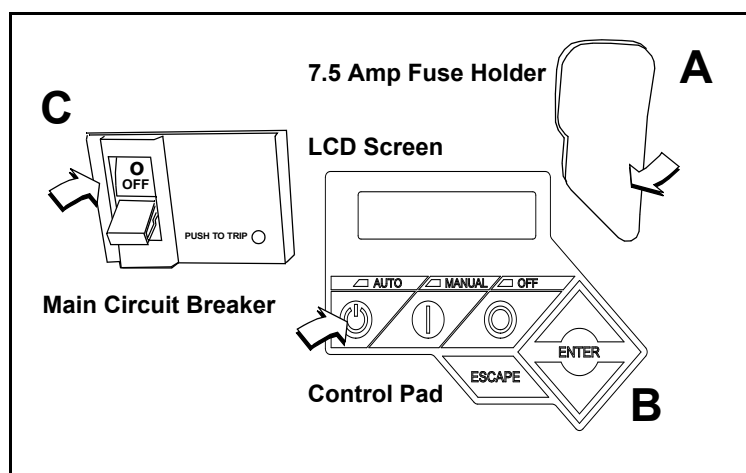

Figure 5-20. Generator Control Panel
1. Pull up rubber flap covering fuse holder and install 7.5 amp fuse. See A of Figure 5-20.
3. Press AUTO on the control pad. A green LED illuminates to confirm that the system is in the AUTO mode. See B of Figure 5-20.
4. Move the Main Circuit Breaker switch up to the ON (Closed) position. See C of Figure 5-20.